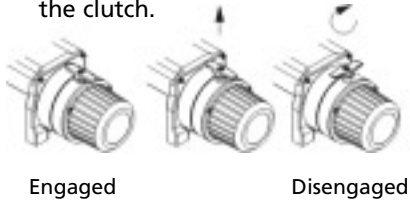

Figure 9
To install mounting nuts, position the winch with the 8 foot-forward mounting holes facing forward and the freespool lever upright. For a 4.5" x 10" mounting pattern, insert the four nuts into the four innermost nut pockets. Once installed, rotate the winch so the nuts are facing down. (See Figure 9). Using a small screwdriver, carefully insert the two mounting nuts into the nut pockets located on the opposite side of the freespool lever by first pushing the nut into the pocket and then tipping it up into position. Then rotate the winch back to its
1. Rotate the clutch lever to the "Disengaged" position as shown in Figure 9. If there is a load on the wire rope, the clutch lever may not turn easily. **DO NOT FORCE THE CLUTCH LEVER.** Release tension on the wire rope by jogging out some of the wire rope, then try releasing the clutch.
3. Check that there are at least five (5) turns of wire rope left on the drum.
4. Re-engage the drum by rotating the clutch lever to the "Engaged" position (see Figure 9).